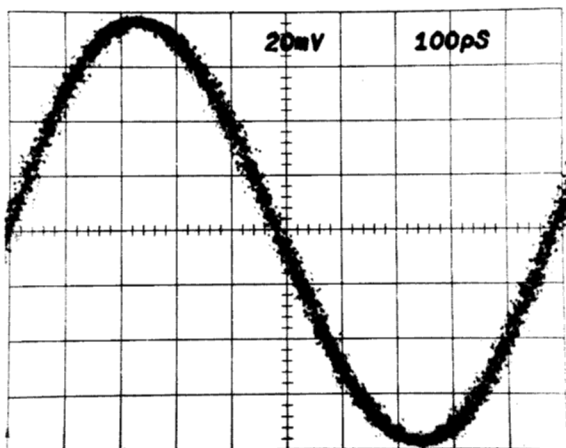

Fig. 7-8. 1 GHz Sinewave at .1 ns/DIV.
d. Change the DELAYED SWEEP to .1 ns and check for one cycle in ten divisions ± 0.3 division (see Fig. 7-8).